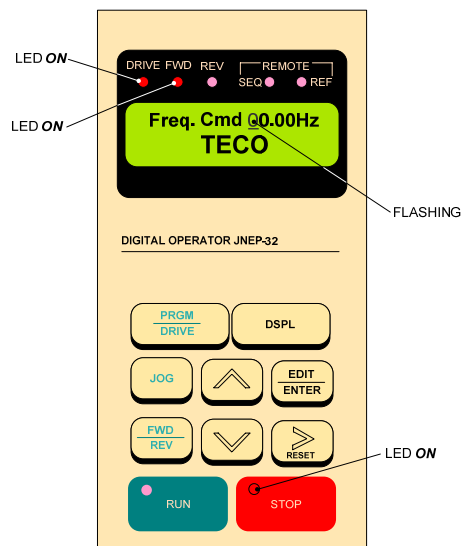

Fig. 1 PA7300 KEYPAD
- Apply AC power to the Inverter and observe the LCD Display Line 1; it should read “**Freq. Cmd 00.00Hz**”. Line 2 should read “**TECO**”. The red LED on the **STOP** key should be **ON**. The **DRIVE** and **FWD** LED’s should be **ON**. (See Fig. 1 below)
Key to return to the output frequency display as in Fig. 1.
Press the  Key to save. Press the  to return to the output frequency display as in Fig. 1.